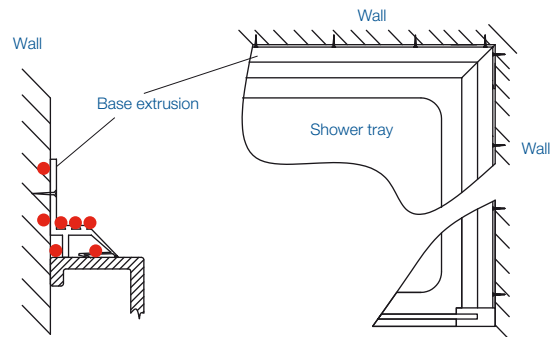

Fig A6 Forming shower tray base joint using base extrusion (Plan not to scale to help clarity)
- 1 part white plastic base section to provide water tight seal between Nuance wall panelling and the junction of bath/shower tray. *Refer to fig A6.*
- 1 Refer to *fig A6* - measure, cut and mitre base section between inside of shower enclosure and internal corner.
- 4 Refer to *fig A6* - apply 4 beads of adhesive as shown. Also apply a generous amount of BB Complete to both mitre and square ends to ensure the installation is watertight.
- 10 Apply BB Complete to the plastic base section as shown *fig A6*.